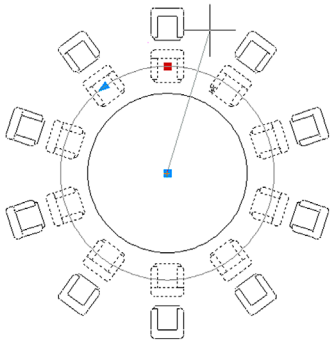

FIGURE 8.8 Stretch Radius in progress.
- *Stretch Radius*: This option simply expands the radius of the overall array. The effect is the same as if you just activate the grip and move the mouse. Stretch Radius in action is seen in Fig. 8.8.